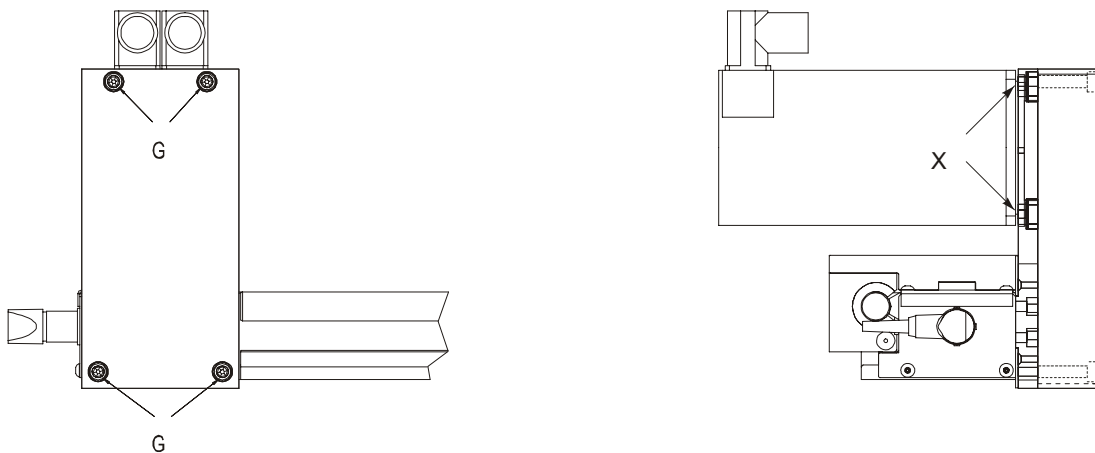

Figure 20: Linear Unit and Belt Drive, Variation 2
- Remove the motor flange cover by undoing the fastening screws (see *Figure 20, G*).